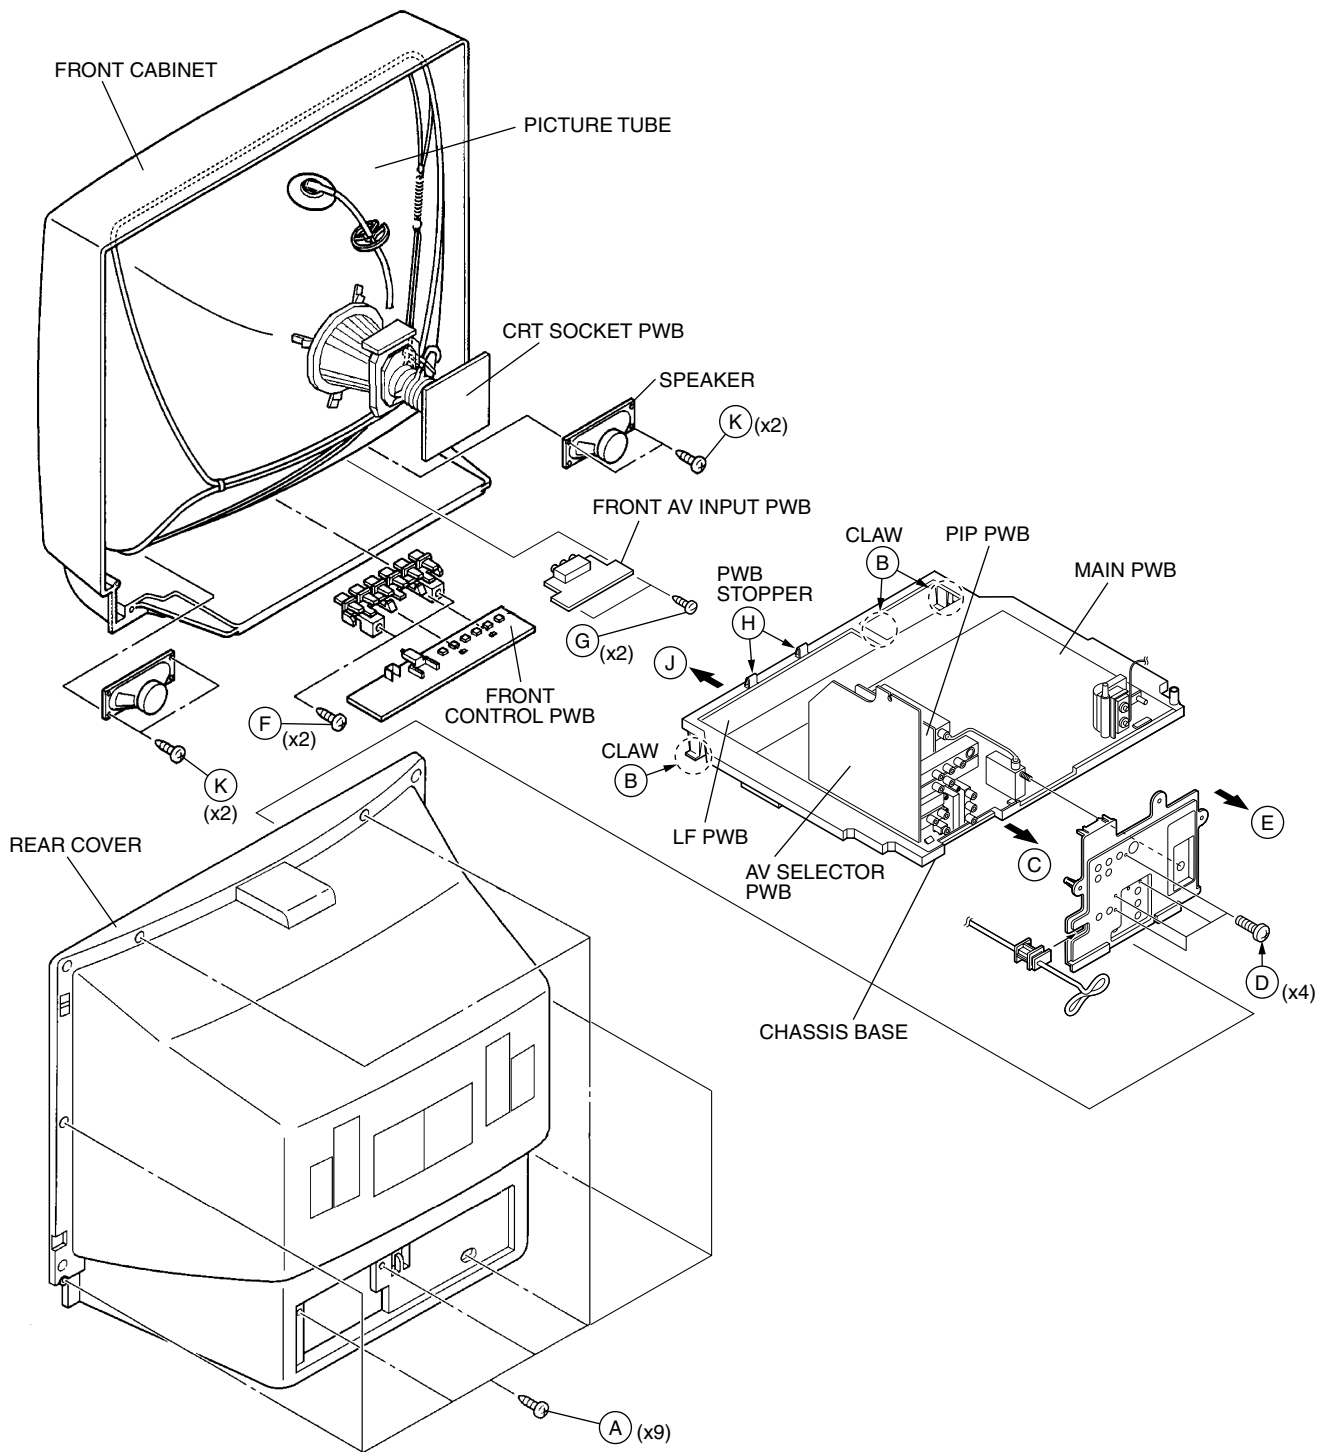

Fig.1
2. Remove the 9 screws marked (A) as shown in Fig.1.
1. Slightly raise the both sides of the chassis by hand and remove the 3 claws marked (B) under the chassis from the front cabinet as shown in Fig.1.
2. Withdraw the chassis backward along the rail in the arrow direction marked (C) as shown in Fig.1.
1. Remove the 4 screws marked (D) as shown in Fig.1.
2. When you pull out the TERMINAL BOARD in the direction of arrow marked (E) as shown in Fig.1, it can be removed.
1. Remove the 2 screws marked (F) and the 2 screws marked (G) as shown in Fig.1.
1. Lift the left side of the LF PWB while pressing the 2 PWB stoppers marked (H) in the arrow direction marked (I) as shown in Fig.1.
1. Remove the 2 screws marked (K) as shown in Fig.1.
<p>(4) System constant check and setting</p> <ol style="list-style-type: none"> 1) Press SLEEP TIMER key and, while the indication of “SLEEP TIMER 0 MIN.” is being displayed, press DISPLAY key and VIDEO STATUS key on the remote control unit simultaneously. 2) The SERVICE MENU screen of Fig.1 is displayed. 3) While the SERVICE MENU is displayed, again simultaneously press the DISPLAY and VIDEO STATUS keys to display the Fig.2 SYSTEM CONSTANT screen. 4) Refer to the SYSTEM CONSTANT table and check the setting items. Where these differ, select the setting item with the MENU UP/DOWN key and adjust the setting with the MENU LEFT/RIGHT keys. (The letters of the selected item are displayed in yellow.) 5) After adjusting, release the MENU LEFT/RIGHT key to store the setting value. 6) Press the EXIT key twice to return the normal screen. 	 <p style="text-align: center;">Fig.1</p>
<p>(7) SERVICE MENU setting Verify what to set in the SERVICE MENU, and set whatever is necessary.(Fig.1) Refer to the SERVICE ADJUSTMENT for setting.</p>